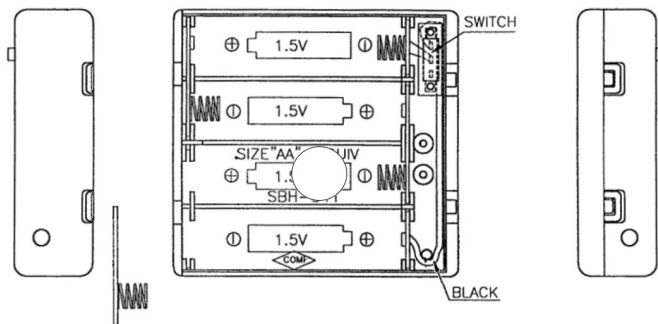

Fig 2U - Wiring diagram
- 6 - Replace the connector taking care that it is correctly orientated. [Fig 2U]